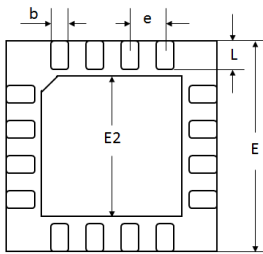
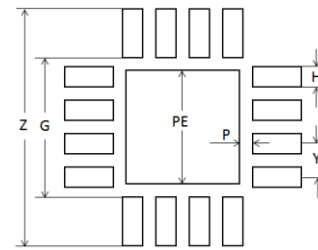

Figure 4.1
Figure 4.3
Figure 4.1 to 4.4 show drawings of a typical QFN package and its corresponding PCB footprint, Table 4.1 summarize the recommended formulas and values to calculate dimensions in Y (vertical) direction for PCB footprint as well as thermal vias based on following design guidelines, the formulas and values are also applicable to dimensions in X (horizontal) direction.
- (2) To minimize solder bridging, the pad width (**H** in Figure 4.3) should be the maximum width (**b** in Figure 4.1) of the component terminal for lead pitches below or equal to 0.65mm. If the pitch is more than 0.65mm, the pad width **H** can be 0.1mm wider than **b** (add 0.05mm on each of the two sides).